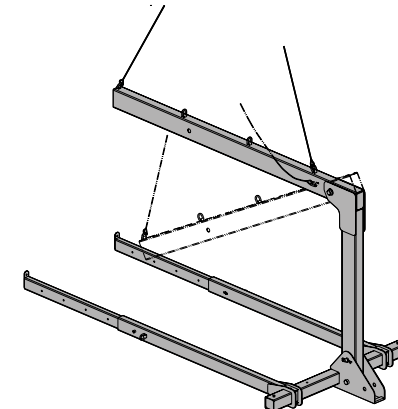

Fig. 5.5 When the pull from the crane is released, the boom swings down to allow the load hooks to be removed at ground level (schematic representation)
- When the transport spreader is completely folded out, replace the bolt in the fork and secure it with the cotter pin. The boom must also be locked in the post (Figures 5.5 and 5.6).